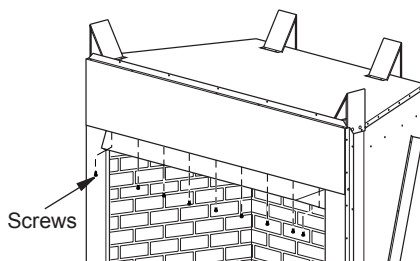

Figure 16 - Screw and Hood Placement
1. Attach hood to firebox using screws provided (see Figure 16).